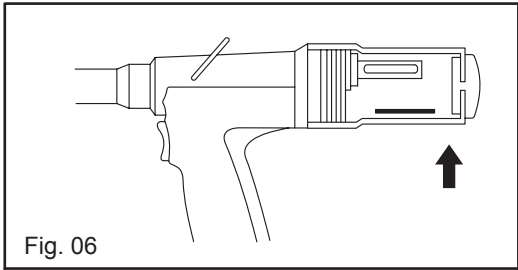

Fig. 06
6. The rivet spine is automatically transported to the collection container according to the set suction (Fig. 06).